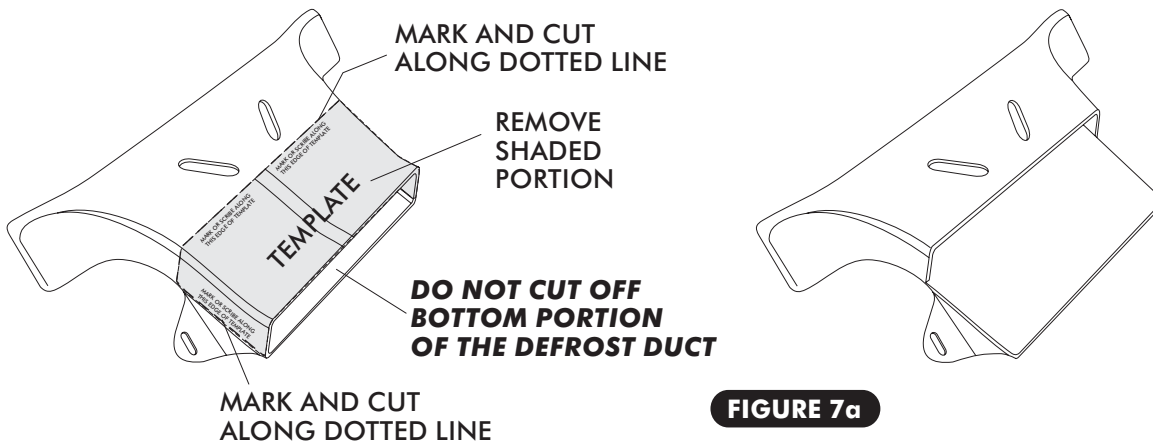

FIGURE 7a
- ☐ LOCATE THE DEFROST DUCT TEMPLATE ON PAGE 27, PLACE THE TEMPLATE OVER THE DEFROST DUCT AS SHOWN IN FIGURE 7a BELOW.
- ☐ REMOVE THE TEMPLATE AND CUT ALONG THE DOTTED LINE AND REMOVE THE TOP PORTION OF THE DEFROST DUCT AS SHOWN IN FIGURE 7a. **NOTE: DO NOT CUT COMPLETELY THROUGH THE DEFROST DUCT, ONLY REMOVE THE SHADE PORTION AS SHOWN.**